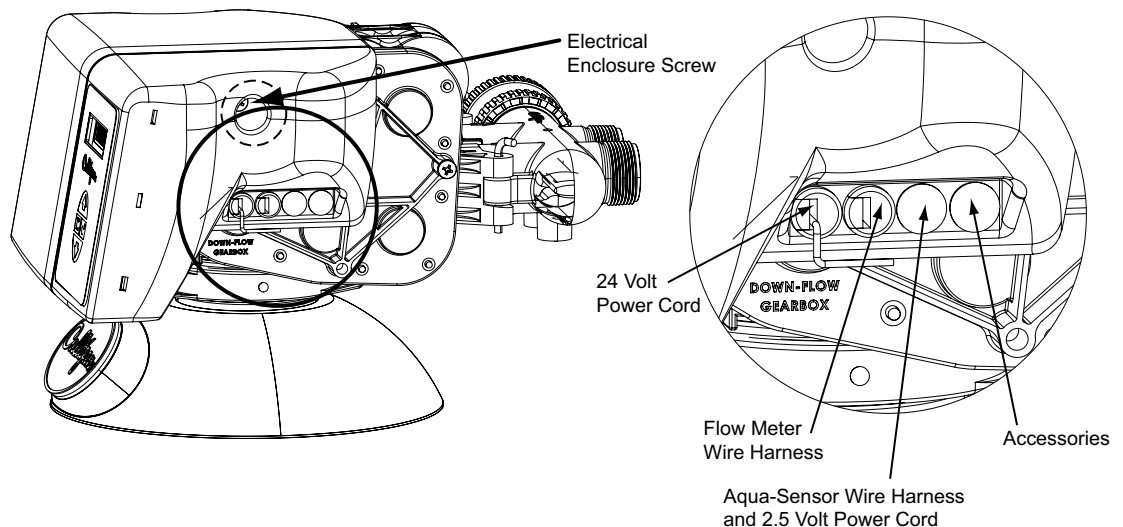
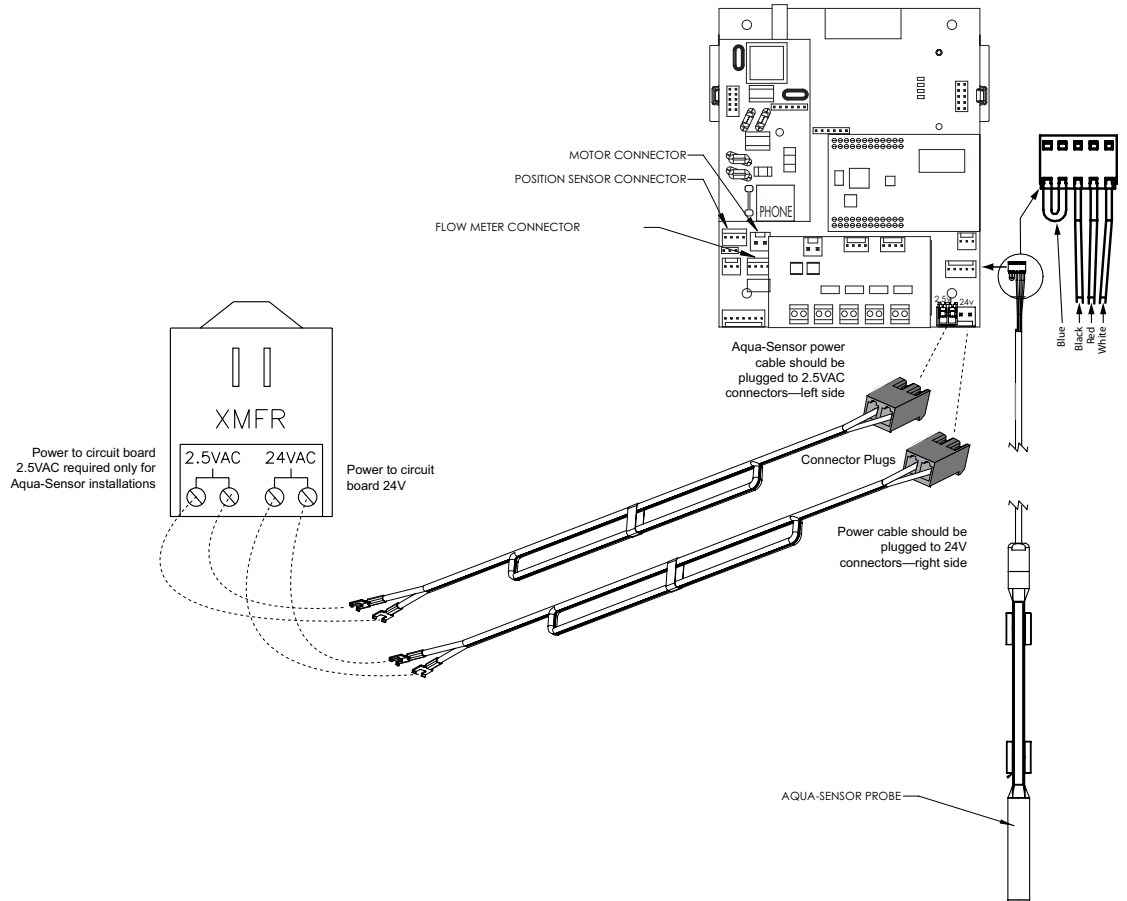

Figure 19. Circuit board connections.
Figure 22. 2.5 VAC Aqua-Sensor® power connection.
The 24 Volt power supply and flow meter wire harness is already connected to the circuit board. If no other circuit board connections are required proceed to the First Time Setup. Refer to the instructions below and Figure 19 to Figure 22 for connecting the Aqua-Sensor probe wire harness to the circuit board.
1. Remove the electrical enclosure from the control valve. First remove the electrical enclosure screw and then gently remove the enclosure from the control. Refer to Figure 19 and below instructions.
7. Insert the Aqua-Sensor 2.5 Volt power cord through the third hole on the enclosure. Insert the Aqua-Sensor sensor probe wire harness through the fourth hole on the enclosure. See Figure 19.
8. Connect Aqua-Sensor probe wire harness to the circuit board. The Aqua-Sensor probe terminal is labeled "Aqua-Sensor." See Figure 22.
- d. Connect the other end of the power cord, with the spade terminals, to the two 2.5 VAC terminals on the transformer. See Figure 22.